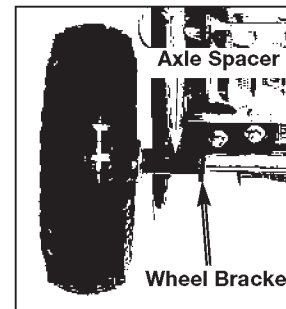

Figure 7
7. Slide one axle spacer (11) down against the wheel (15).
8. Slide the axle (16) through the holes in the wheel brackets (3).
9. Install the second axle spacer (11) then the second wheel (15) with the extended hub facing inward. See Figure 7.